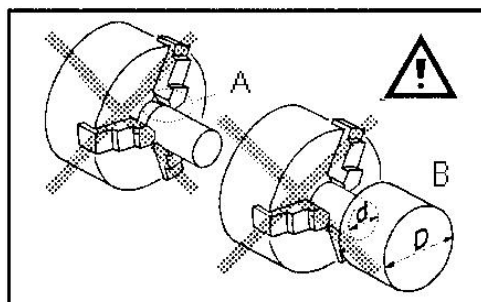

Figure 10-4: Poor clamping
Avoid short clamping contact (A, Fig 10-4) or clamping on a minor diameter (B). Face locate workpiece for added support.